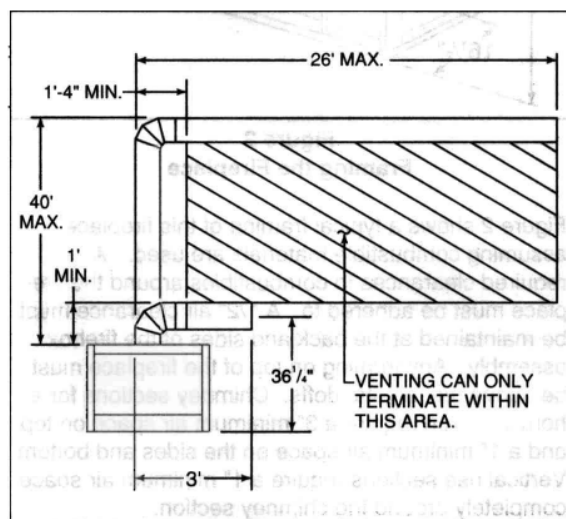

Figure 5
Minimum combustible clearances to the vent on a horizontal run is 3" on top and 1" on the bottom and sides. These clearances must be maintained at all times. The maximum horizontal run allowed for venting is 26'. The maximum vertical rise allowed for horizontal termination is 40'. See Figure 5.
4. Venting through the wall. Horizontal venting must terminate within the shaded area shown in Figure 5 on the previous page. Chart A illustrates the figures included in that shaded area. For example, if your vertical rise is the minimum one foot, venting can terminate anywhere between 16 inches and 3 feet.